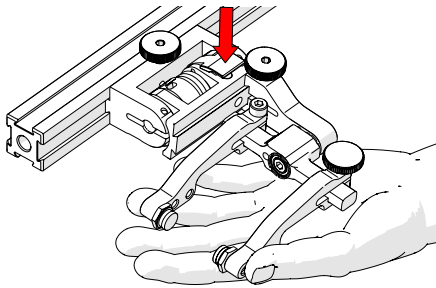

Fig. 125 - Lift slightly and press Latch
2. Lift probe holder slightly and press the latch button (Fig. 125) to release the probe holder the full 45° degrees.